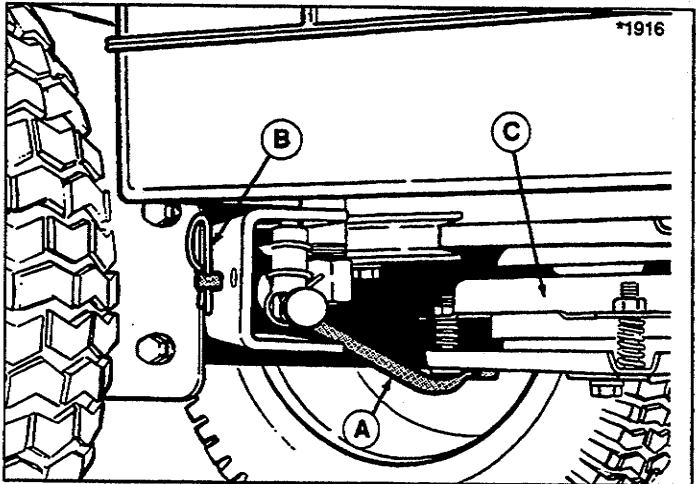

Figure 41. Anti-Spin Rod
5. Remove anti-spin rod from frame and PTO. See figure 41.